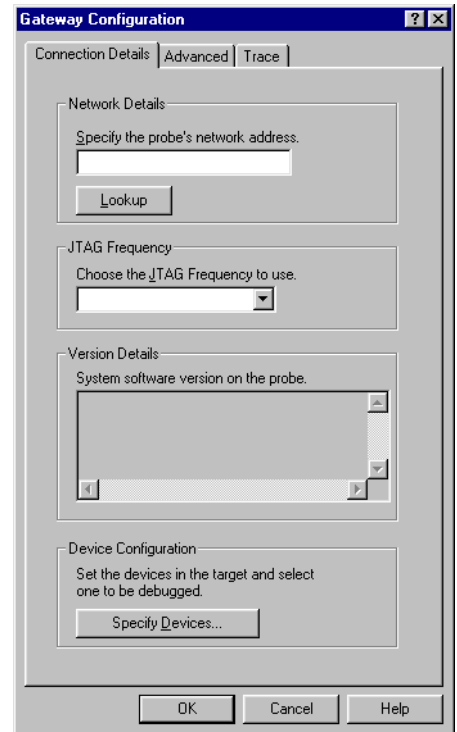

Figure B-7 Gateway Configuration dialog box, Connection Details tab
4. Click on **Configure** to display the Gateway Configuration dialog box (Figure B-7).